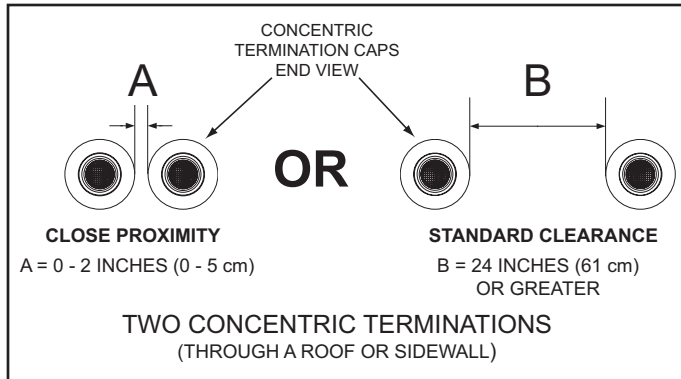
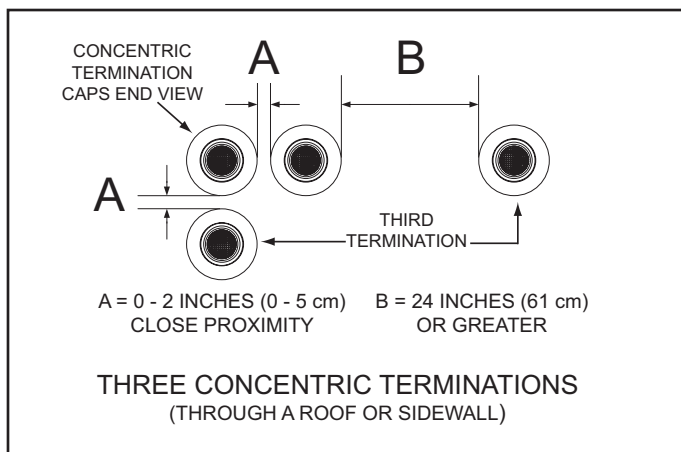
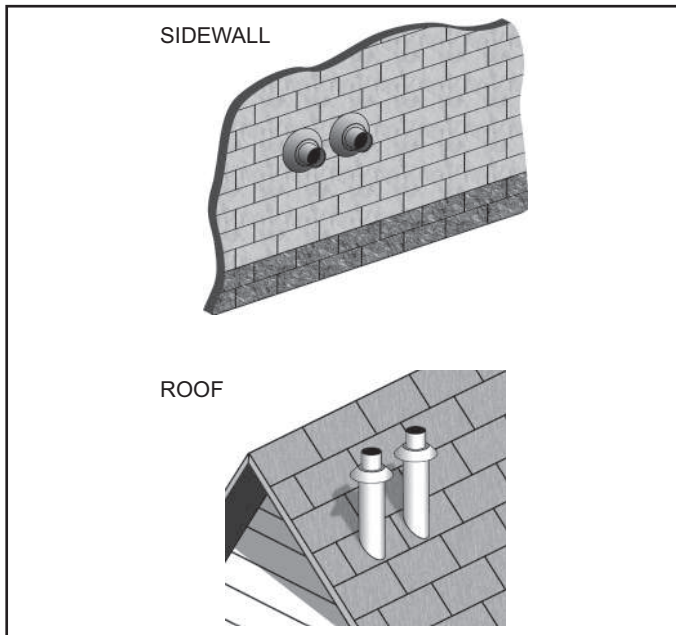

Figure 32
Figure 33
Figure 37
When installing multiple concentric terminations through a roof or through a sidewall the clearances shown in Figure 32 must be maintained.
1. The clearance between multiple termination caps must be 0 inches (touching) to a maximum of 2 inches (5 cm), dimension A - Figure 32, when installing concentric terminations in close proximity. See Figure 37 on page 30.
2. The clearance between multiple termination caps must be increased to a minimum of 24 inches (61 cm), dimension B - Figure 32, when installation in close proximity (above) is not possible. This is the standard clearance.
1. When installing three concentric terminations through a roof or through a sidewall the third termination may be installed in close proximity as indicated by dimension A in Figure 33.
2. If close proximity installation of the third termination is not possible the third termination may be installed as indicated by dimension B in Figure 33.
Two concentric terminations may be installed in close proximity as shown in Figure 37 or with standard clearances when this arrangement is not possible. See Figure 32 on page 29 for detailed information on clearances. See Figure 33 on page 29 when installing three concentric terminations.